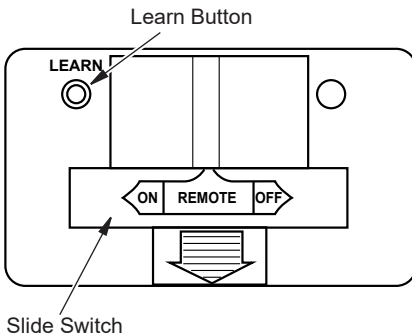

Figure 24 - Receiver
1. Place the slide switch on the receiver in the remote position (see Figure 24).
4. Press the ON button on the remote control to light the burner (see Figure 24). You will hear a series of beeps. This will also "learn", or program, the remote and the receiver.